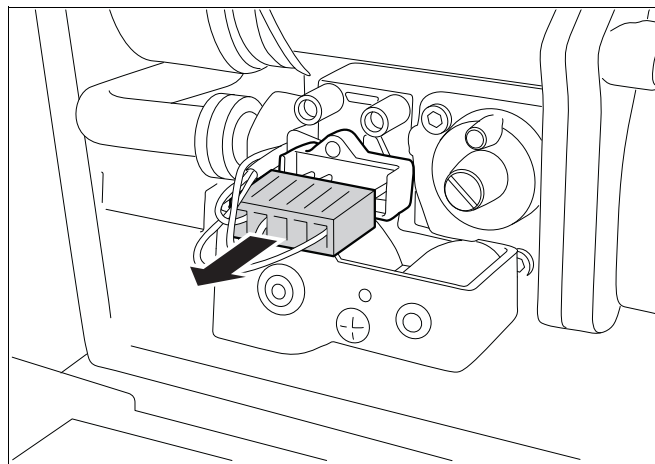

fig. 42 Removing the gas control valve plug
- Remove the cable plug from the gas control valve (see fig. 42, pos. 1).